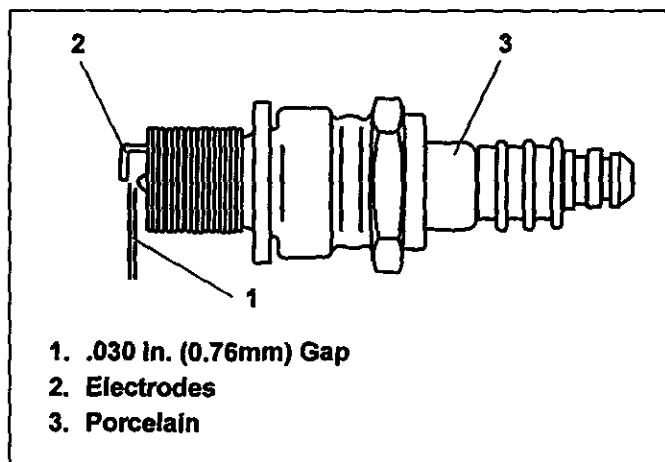

Figure 23. Spark Plug
4. Check electrode gap with wire feeler gauge and set gap to—.030 in. (0.76mm) if necessary. See Figure 23.